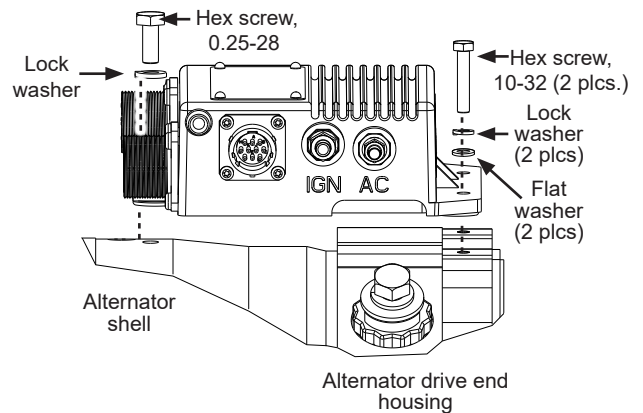

Figure 5: Regulator Mounting Hardware
1. Mount regulator on alternator with included hardware as shown in Figure 5. Torque 0.25-28 screw to 8.5 Nm/75 lb. in and 10-32 screws (2) to 3.4 Nm/30 lb. in.